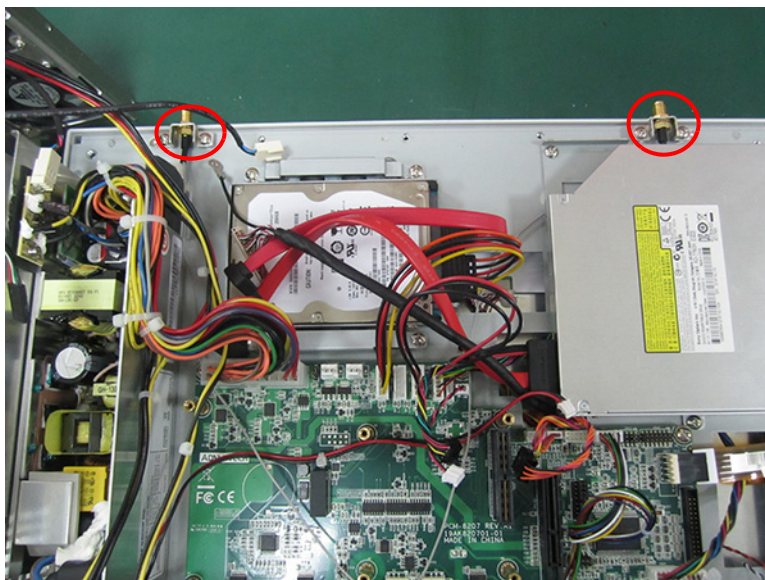

Figure 2.29
3. Secure the bracket with the antenna onto M/B frame, the wiring method is shown in Fig 2.29.